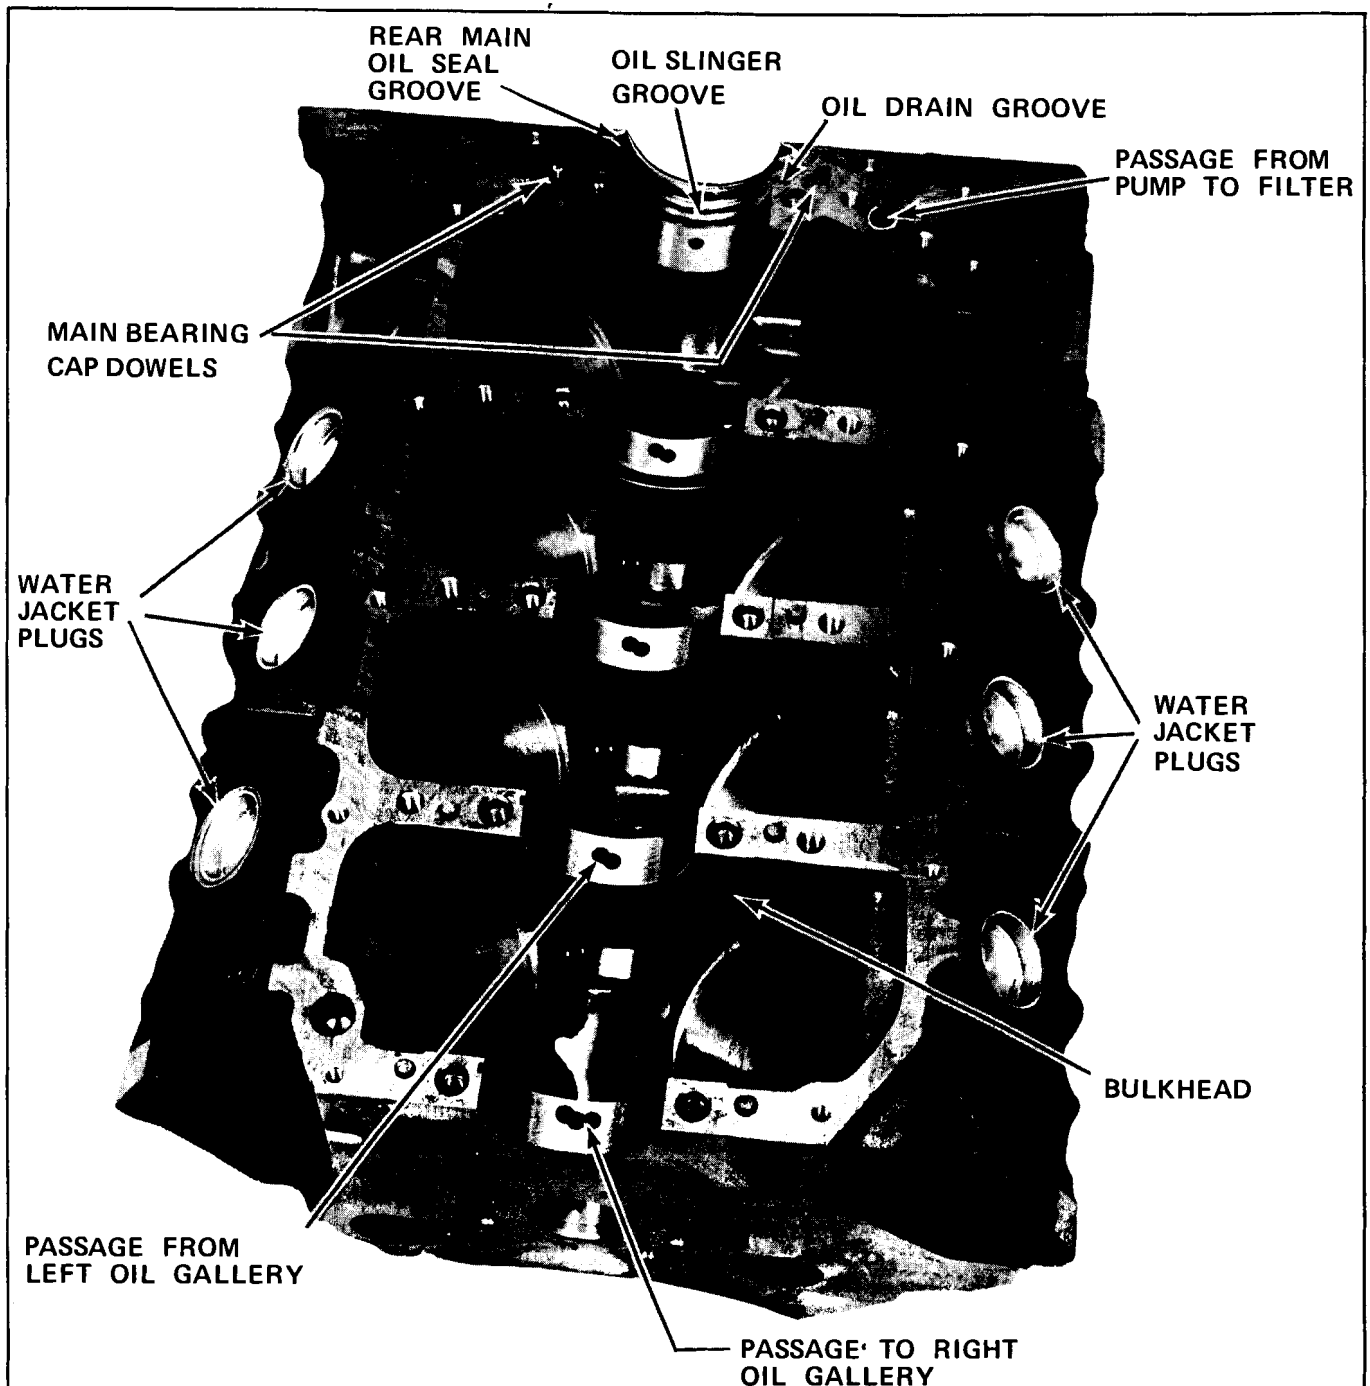

Fig. 6-169 Cylinder Block - View from Bottom
1. With cylinder block inverted, use pen light to see that passage from oil pump to filter is open (Fig. 6-169).
3. Visually check passage from each main bearing to corresponding camshaft bearing (Fig. 6-169).